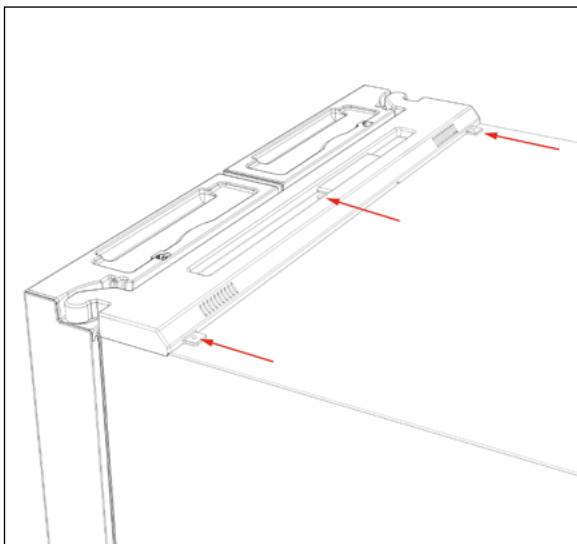

Figure 2
1. With both doors closed remove the 3 screws from the top hinge cover that connects both doors (see Figure 2). Set the screws aside. Use a step ladder for easier access.